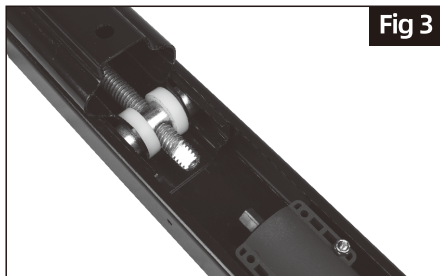

Fig 3
3. The motor channel will slide over each jack assembly. You will see a flattened area on each end of the threaded rod (fig 3).